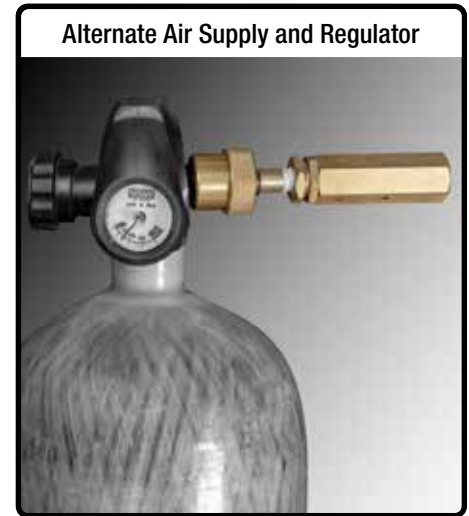

Figure 4a
1. Air compressor supply is shown as ❶.
2. Supply reservoir (wet tank) is shown as ❷.
3. Primary reservoir (typically for the rear brakes) is shown as ❸.
4. Pressure Protection Valve (PPV) is shown as ❹ and in photo at right.
5. **Figure 4a** shows a customer supplied SCBA Cylinder used with the Trident Pressure Regulator for use on trucks without airbrakes. The regulator is available separately as Part #14.013.0.